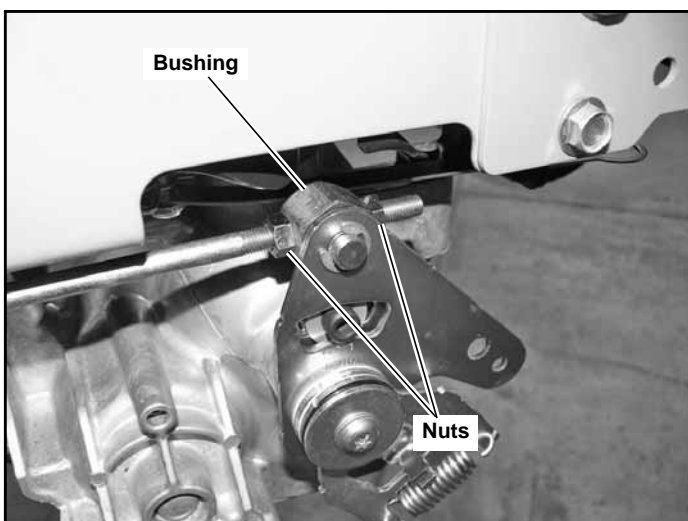

Figure 4-4
7. Tighten the nuts against steering bushing (Figure 4-4). Verify that the pump arms are still in the neutral position